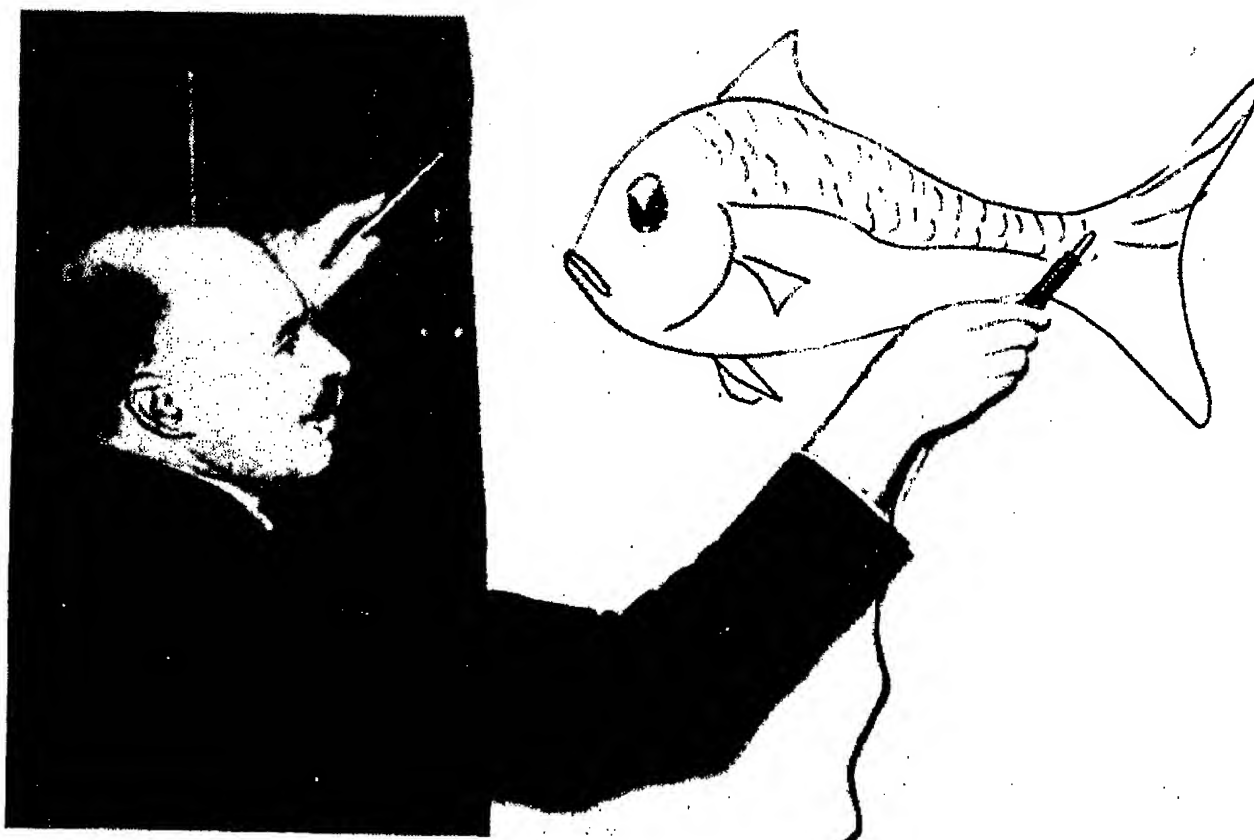

Fig. 69. Drawing with a positive electrode on a sheet moistened with starch paste and potassium iodide. (*'Sphere' photograph*)
D.C. supply of a few volts, and let the negative rod touch the metal sheet, a beautiful violet line can be drawn on the sheet with the positive rod because the iodine liberated by the current reacts with the starch. Fig. 69 (Plate 15) shows the author drawing a fish in this way. I strongly recommend this method of drawing to lightning artists, because an intensely dark and very uniform line follows the moving terminal, and can be produced at any speed with the lightest possible touch. If we exchange the terminals, only a faint smudge appears. The plate then becomes the anode and the terminal we are drawing with becomes the cathode. The iodine is liberated behind the sheet where it touches the plate, not in front of it, and the stain is only faintly seen through the sheet.